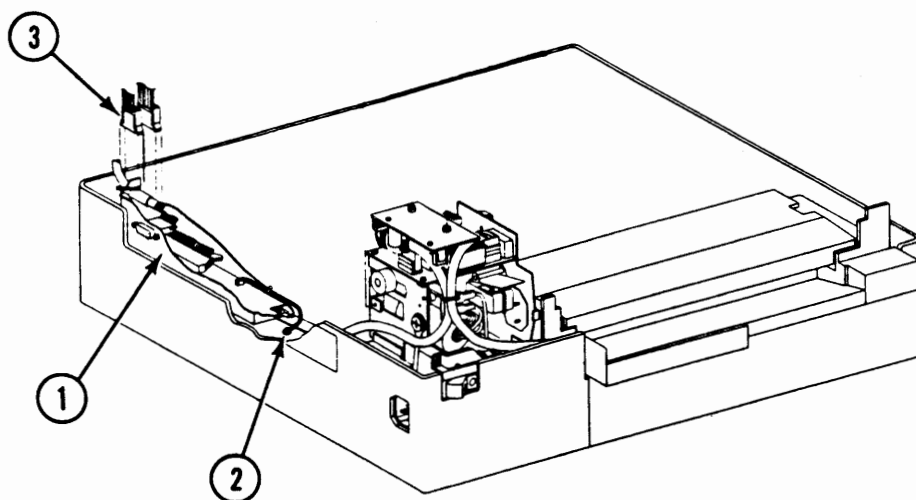

FIGURE 2-58
4. Reconnect the two black-and-white cables to the connectors behind the I/O connector plate (Figure 2-58, #3).
5. Replace the mounting connector plate (Figure 2-58, #1) as follows:
- c) Replace the large, black screw (Figure 2-58, #2) that secures the grey-and-white grounding wire to the lower main body.